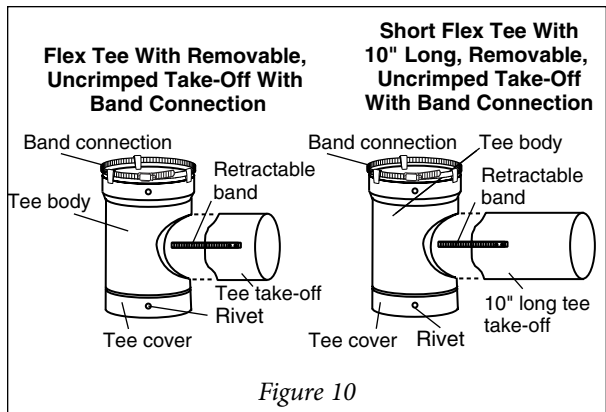

Figure 10
4. To install the tee, first place the tee cover over the outside of the bottom end using four, 1/2" 316-alloy stainless pop rivets to secure (Figure 10).
The first tee, left, Figure 10, is called the Flex Tee With Removable, Uncrimped Take-Off With Band Connection. The UltraPro slides into the top of the tee and is secured by tightening the retractable band connection. There are also four pilot holes where 1/2" 316-alloy pop rivets may also be used if desired. The take-off attaches to the tee body with a retractable band connection.
The second tee, on right, Figure 10, is called the Short Flex Tee With 10" Long, Removable, Uncrimped Take-Off With Band Connection. The UltraPro slides into the top of the tee and is secured by tightening the retractable band connection. There are also four pilot holes where 1/2" 316-alloy pop rivets may also be used if desired.